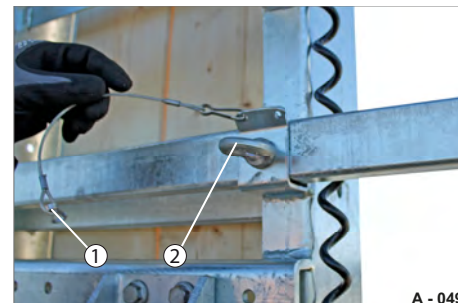

Fig. 71 Eye bolt unlocked
- Pull the cable with karabiner (Fig. 71/1) out of the eye bolt (Fig. 71/2).